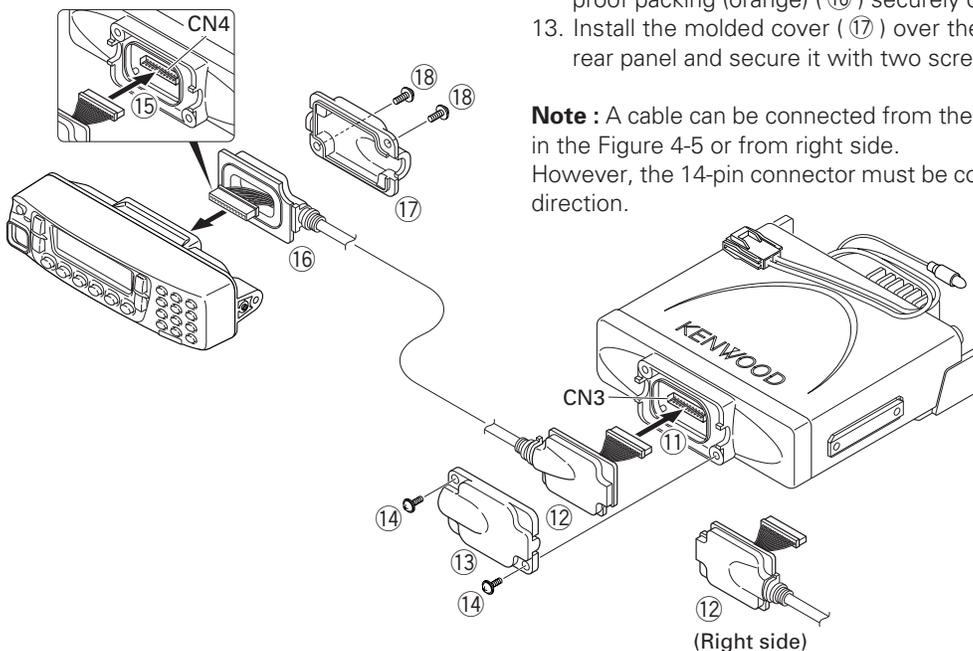

Fig. 4-5
**Note :** A cable can be connected from the left side as shown in the Figure 4-5 or from right side. However, the 14-pin connector must be connected to correct direction.